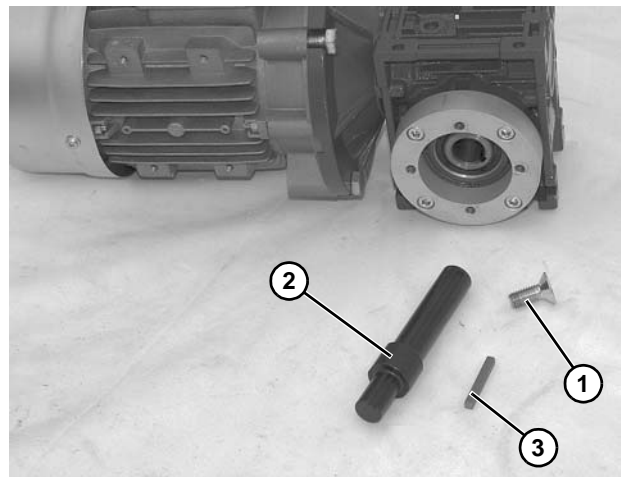

Figure 18
7. Loosen screw (**Figure 18, item 1**). Tap screw with hammer to break tapered shaft free. Remove screw (**Figure 18, item 1**) and remove gear reducer output shaft (**Figure 18, item 2**) and key (**Figure 18, item 3**).
8. Insert the new shaft (**Figure 18, item 2**) and key (**Figure 18, item 3**) into new gear reducer. Tighten flat head screw (**Figure 18, item 1**).